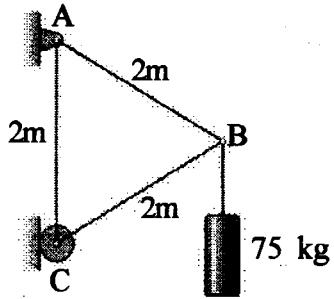

Fig 6
a) Determine the force in each member of the simple equilateral truss. (Fig 6)